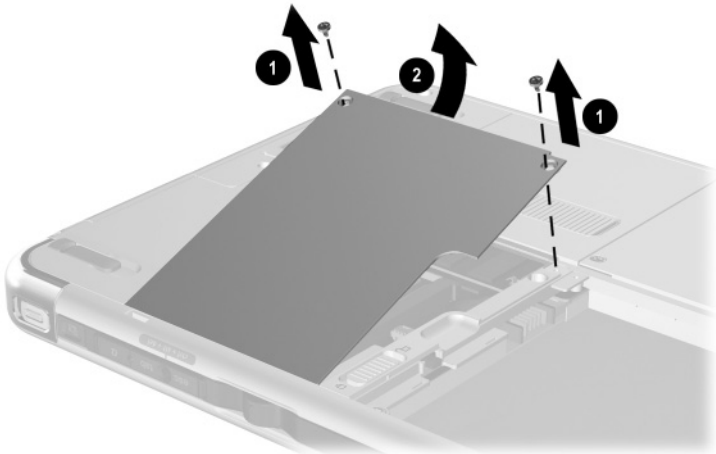

Figure 5-3. Removing the Memory Expansion/Mini PCI Communications Compartment Cover
- b. Remove the two PM2.0 \times 4.0 screws ❶ that secure the mini PCI communications/memory expansion slot cover to the tablet PC (Figure 5-3).
- c. Lift the back edge of the mini PCI communications/memory expansion slot cover up and swing it forward ❷.